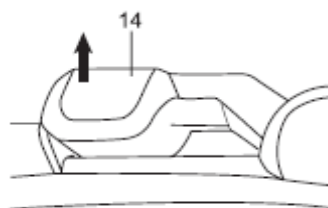

Fig 6
Lift up the front handle (14) until hear a "click". To fold it back, simply depress it a bit harder. (Fig. 6&7)